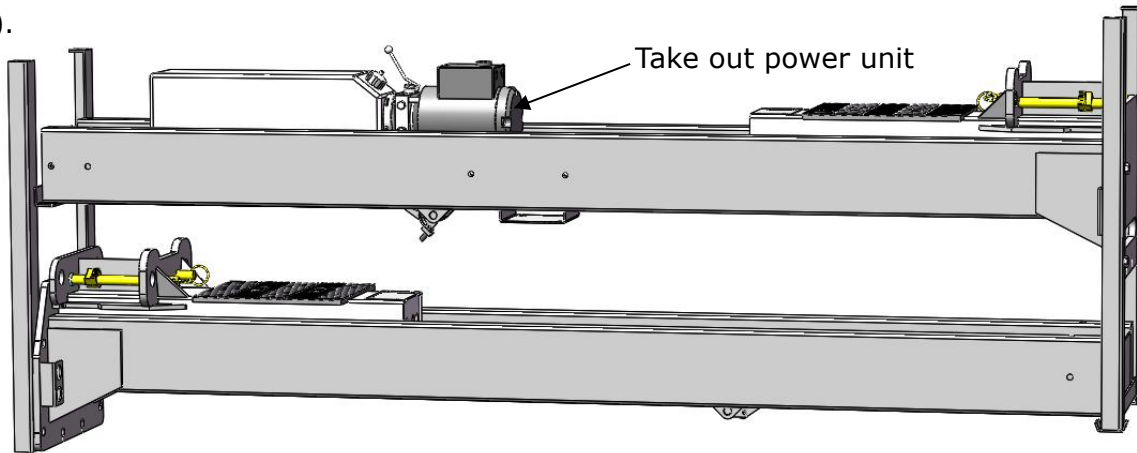

Fig. 12
3. Take out 2pcs outer column, then move them aside to the installation position. (See Fig. 12).